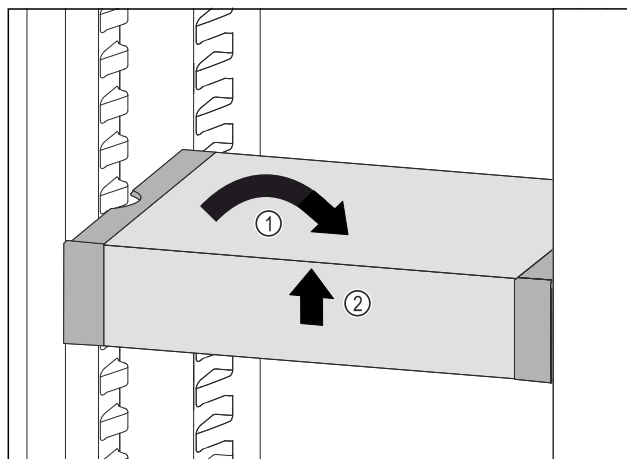

Fig. 198
- Set VarioSafe straight. Fig. 198 (1)
- Lift VarioSafe at the front. Fig. 198 (2)